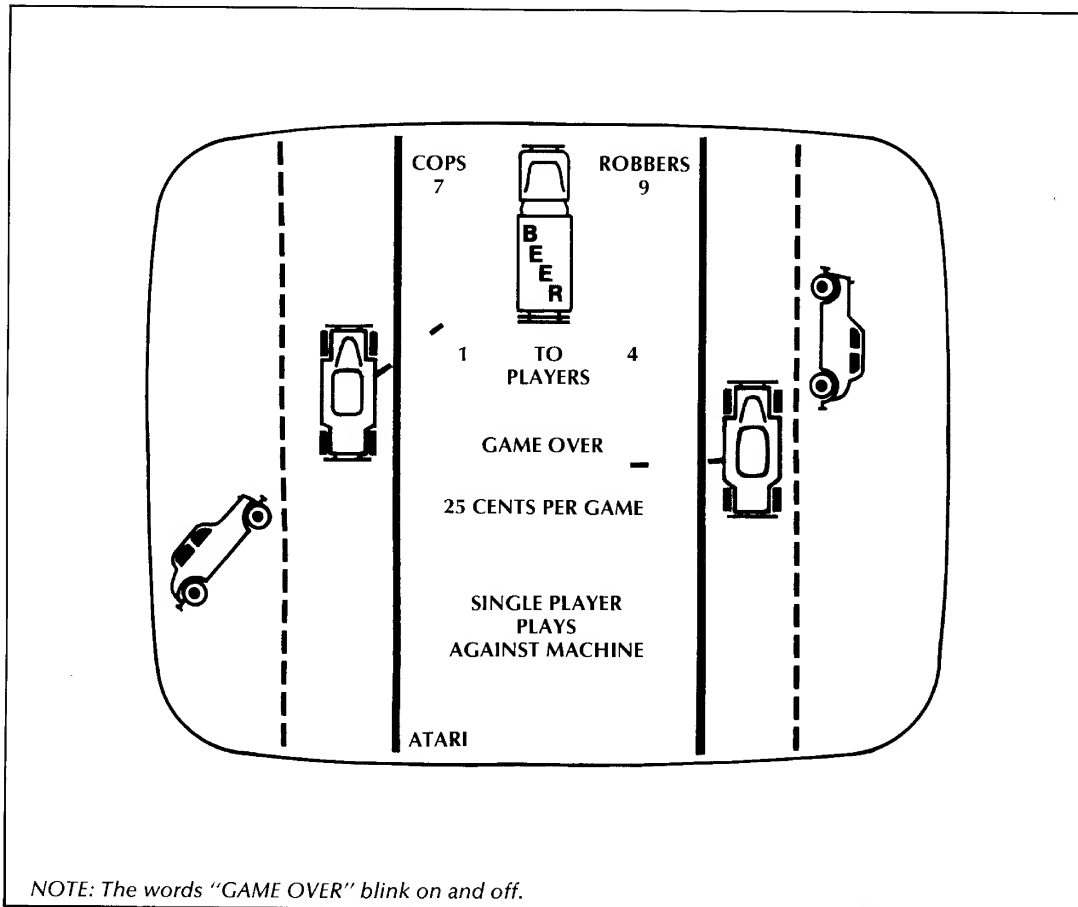

Figure 3-3 Typical Picture During Attract Mode
**3.3.2 ATTRACT MODE:** Figure 3-3 shows a typical picture that players would see after completion of a play sequence in the play mode. Just after initial application of AC power, the picture in the attract mode may vary somewhat from that shown in the figure. Also the message line about the cost of game play will be determined by which of the four cost choices has been made. The cops score and the robbers score from the previous play sequence will continue to be displayed throughout the subsequent attract mode. No sounds will be produced, but the cars will be in motion and firing bullets, under automatic control of the game's internal circuitry. The beer truck (or trucks) will also be moving upwards along the center of the picture. However, any hits made on cars will not affect the scores shown during the attract mode.